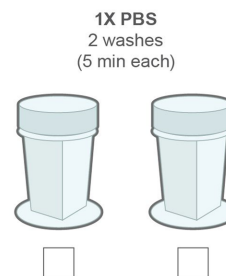

Figure 32: Wash 2X in 1X PBS
11. After slide incubation, tap off excess digestion buffer *one slide at a time* and **transfer slides to staining jar containing fresh 1X PBS.** Wash for 5 minutes (Figure 32).